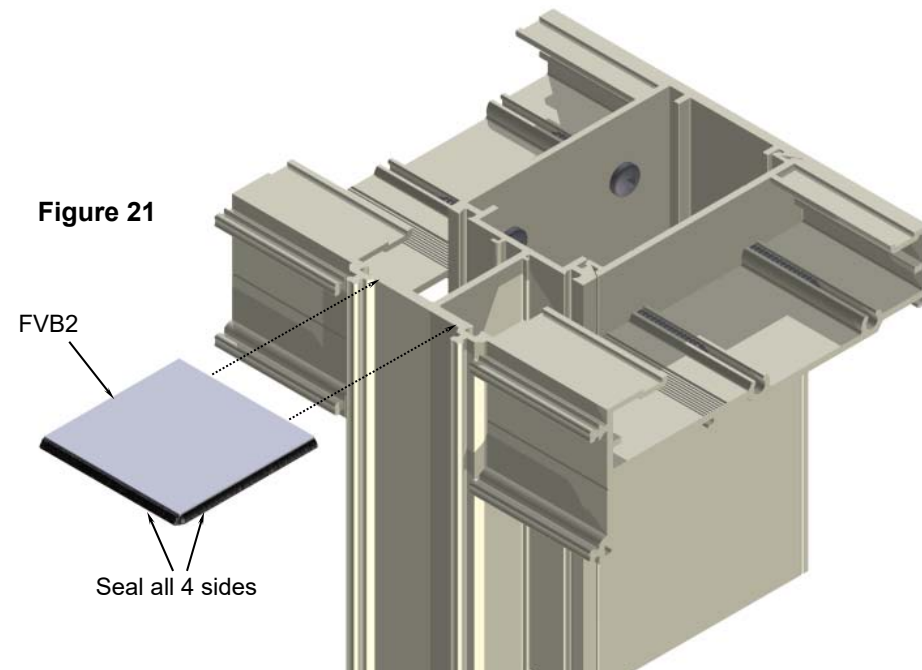

Figure 21
- **Type “A” Installation - captured:** After framing members are installed into the opening, apply silicone type sealant to one side of a FVB2 mullion end cap and slide it over the vertical mullion end. See figure 21. Shear block and screw-spline verticals and jambs are all similar.